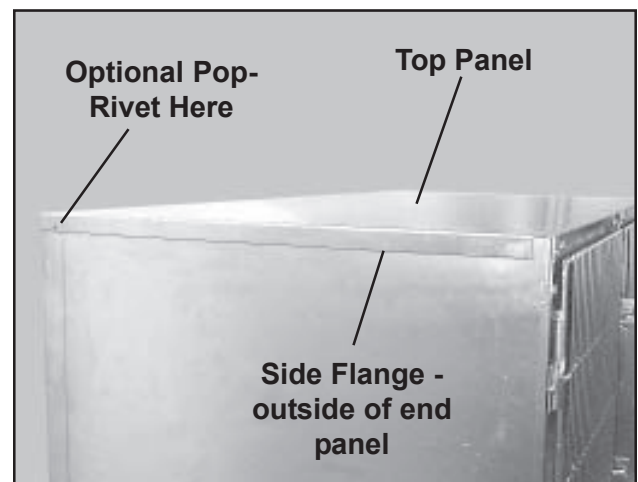

Figure 49. Top Panel - End View
- the side flanges fit outside of the end panels (Figure 49).
6. Drill a 3/16 in. hole through the end panel behind hole in the top panel side flange (Figure 49).